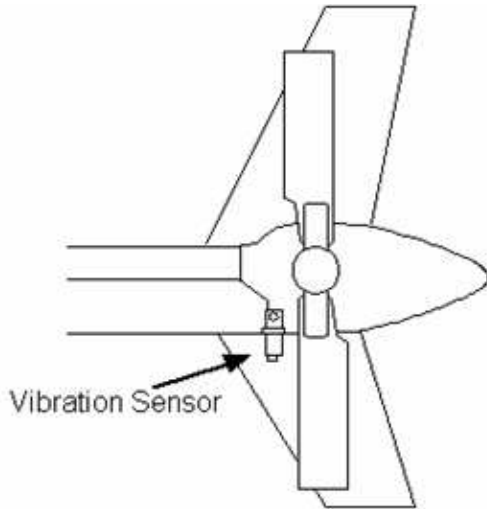

Figure 1
2. Install the 991D-1 Vibration Sensor (Item 4) into the 1/4 x 28 Sensor Mount (Item 6) and attach to the left hand side of the tail boom with the connector pointed down. **The connector must point down.** (Figure 1)